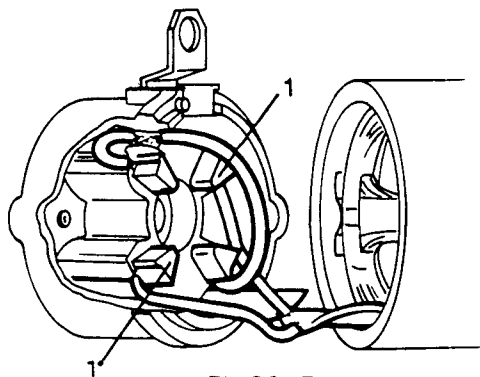

Fig O6.17
- (1) Refer to Fig O6.17. For the field coil brushes (1) cut the brush flexible leads leaving approximately 6 mm of lead each side of the coil end.
- (2) Solder the new brushes to the remaining ends of the old leads.